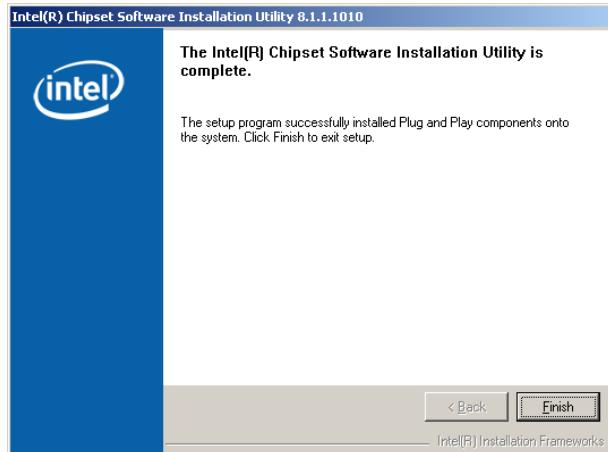

Figure 7-6: Chipset Driver Installation Complete
Step 15: After the driver installation process is complete, a confirmation screen (**Figure 7-6**) appears.